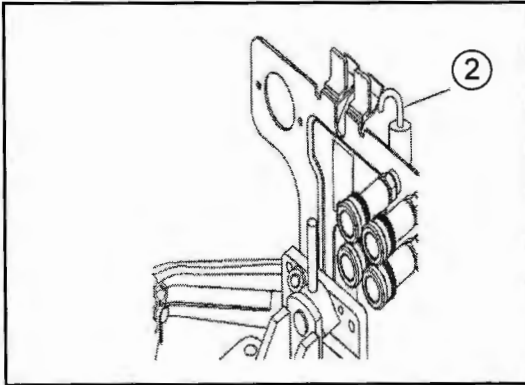

Fig. 35-1 - Radiator Sub Tank
If necessary, top off and add coolant through fill point (2). (See Fig. 35-1).